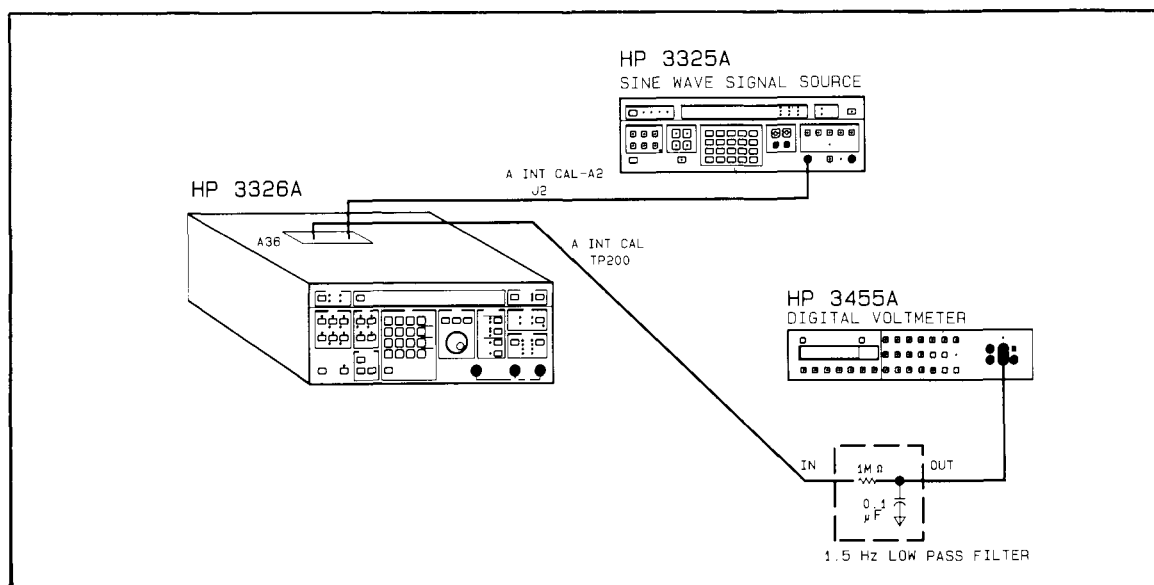

Figure 3-9. Equipment Setup for Measuring Vdc
4. To make a **Vdc reading**, connect the test equipment as follows (illustrated in Figure 3-9):